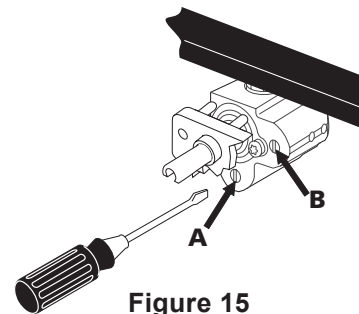

Figure 15
- The inner portion (Simmer) of the dual burner flame size or the rear portion of the bridge burner flame size can be increase or decrease with the turn of screw A. Use screw B to adjust flame size of the outer portion of the Dual Burner or the center portion of the Bridge Burner (Figure 15). Turn the screw counterclockwise to increase flame size. Turn clockwise to decrease flame size. Adjust flame size until you can quickly turn the knob from LITE to lowest position without extinguishing the flame. Flame should be as possible without going out.